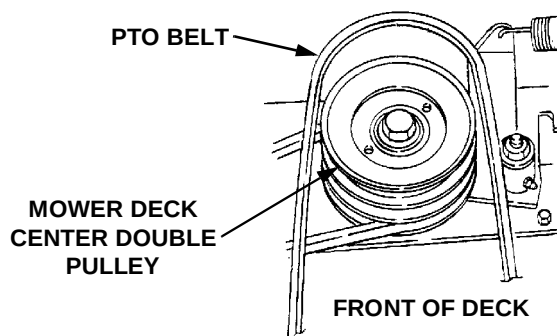

Figure 61
16. Install the rearward end of the PTO belt on the upper pulley of the deck center double-pulley (Refer to Figure 61). Ensure that the narrow side of the belt engages the groove of the upper pulley.